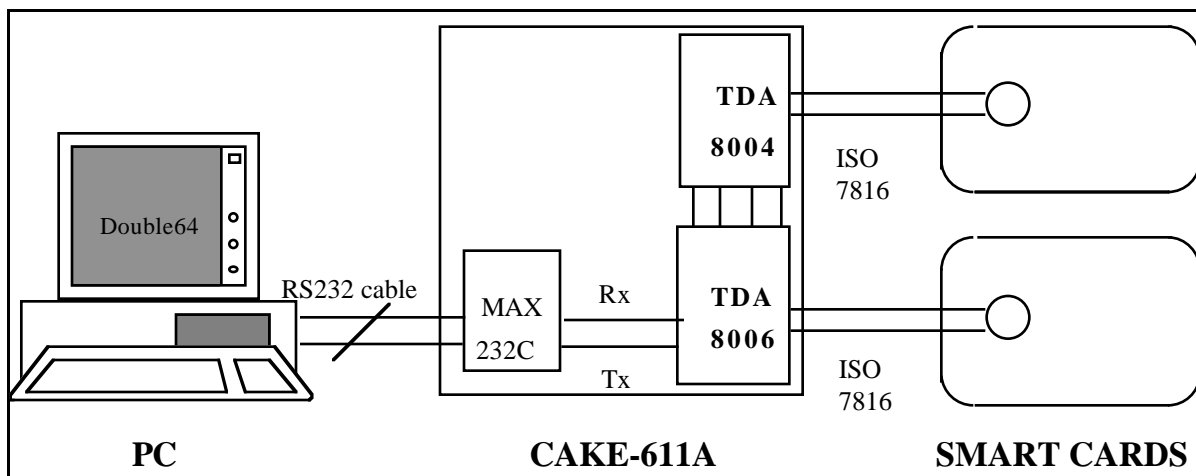

Figure 2: The complete system: PC, CAKE-611A and smart cards
The figure 2 shows the complete system: host system (PC), smart card interface (CAKE-609A) and smart cards. A driver software called 'Double64' installed in the PC plays the role of the host system. The control and the communication of the interface controller CAKE-611A by the PC driver are made through a standard serial cable.